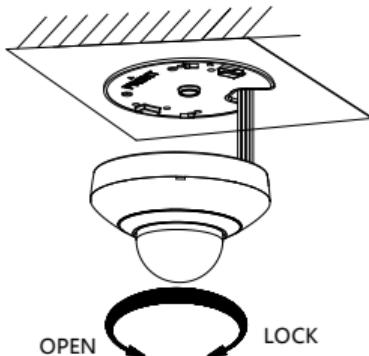

Figure 2-11 Fix the Camera
5. Align the camera with the installation plate, and rotate the camera clockwise to fix it, as shown in Figure 2-11.